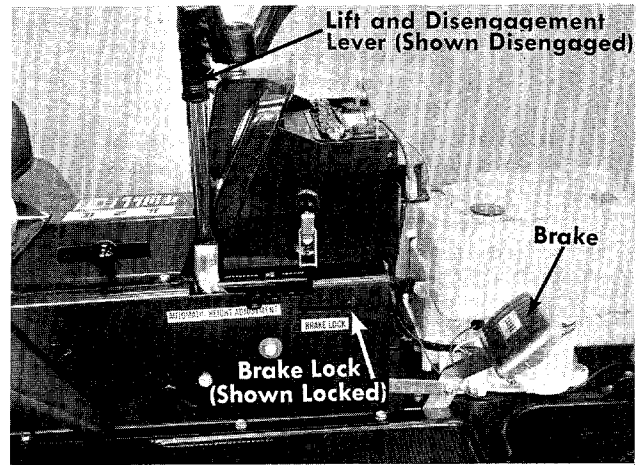

FIGURE 7. RIGHT HAND CONTROLS
- c. **Brake.** The brake pedal is located on the right hand side of the mower and is operated by depressing it with your right foot. See figure 7.
d. Brake Lock. The brake lock is located on the right hand side of the mower. To lock the brake, depress the brake pedal and lift up the lock button. The pedal will stay depressed. To release, depress the pedal. See figure 7
l. **Lift and Disengagement Lever.** It is used to raise the cutting deck. Pulling it all the way back and locking it disengages the blades. The engine will not start unless the lift and disengagement lever is in the disengaged position. See figure 7.
Step 3. Place the lift and disengagement lever in the DISENGAGED position. See figure 7.
To stop the blades, move the lift and disengagement lever (figure 7) into the DISENGAGED position. This raises the deck and disengages the blades.